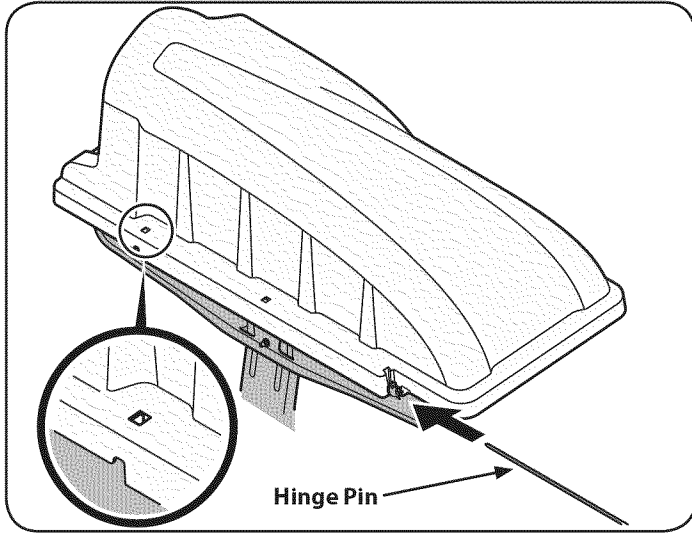
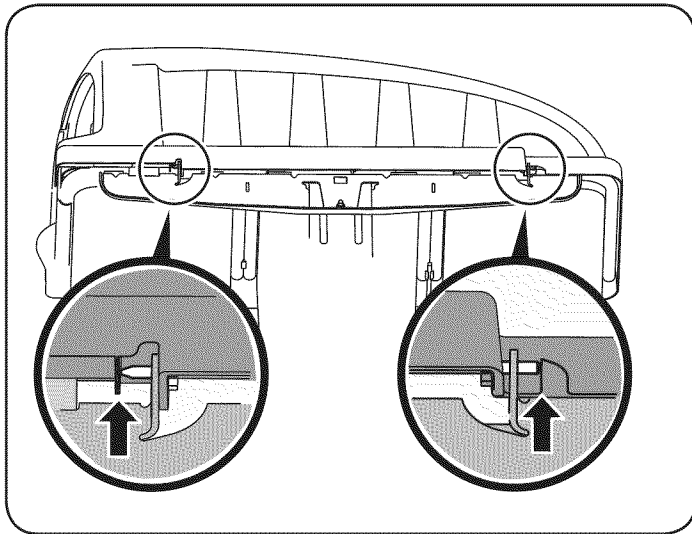

Figure 13
Figure 14
6. Slide the hinge pin into the hole located on the mounting tab, as in Fig. 13. Use the cut-out window (See inset in Fig. 13) to line up the hinge pin on the other side and push pin all the way in until it reaches the end-stop. At this point the pin clips into place and is secured by a tab in the bagger cover. See Fig. 14.